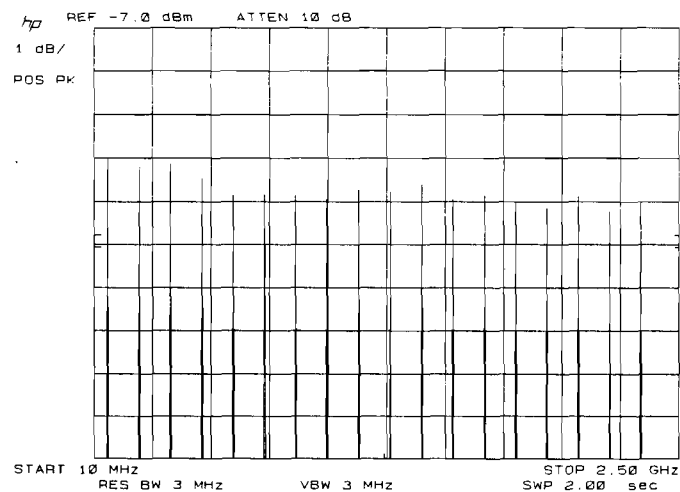

Figure 3-92.
34. On the spectrum analyzer, key in TRACE A **(CLEAR-WRITE)**, **(SWEEP TIME)** 2s, MARKER **(NORMAL)** 500 MHz, **(HOLD)**. As the spectrum analyzer completes each sweep, a series of approximately 18 new responses should be displayed, as shown in Figure 3-92. The peaks of these responses coarsely outline the spectrum analyzer frequency response.